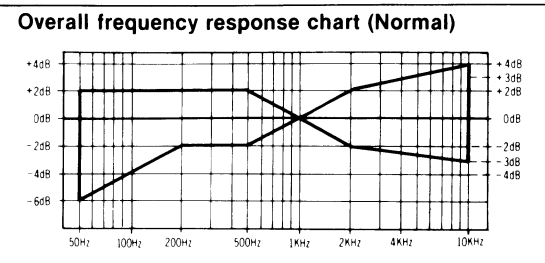
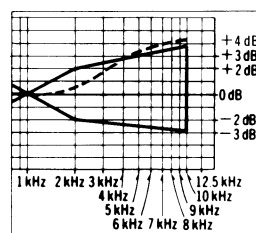
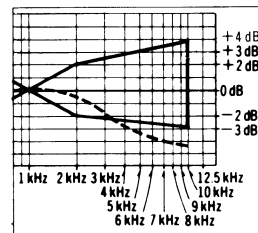

Fig. 10
Fig. 12
Fig. 13
6. Playback the signals recorded in step 5, and check if the frequency response curve is within the limits shown in the overall frequency response chart for normal tapes (fig. 10). (If the curve is within the charted specifications, proceed to steps 7, 8 and 9.)
When the curve exceeds the overall specified frequency response chart (fig. 10) as shown in fig. 12.
When the curve falls below the overall specified frequency response chart (fig. 10) as shown in fig. 13.
- 2) Repeat steps 5 and 6 for confirmation (Proceed to steps 7, 8 and 9 if the curve is now within the charted specifications as shown fig. 10.)
- 3) If the curve still exceeds the specifications (fig. 10), increase bias current further and repeat steps 5 and 6.